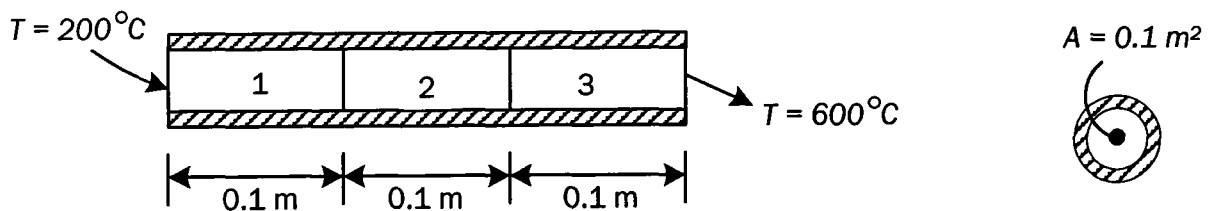

Figure Q5[a]
- Q5. [a] For the composite wall idealized by the one-dimensional model shown in Figure Q5[a], determine the interface temperature between elements 1 & 2, and 2 & 3. For element 1, let thermal conductivity $K_{xx} = 15 \text{ W/(m}\cdot\text{°C)}$; for element 2, $K_{xx} = 10 \text{ W/(m}\cdot\text{°C)}$; and for element 3, $K_{xx} = 25 \text{ W/(m}\cdot\text{°C)}$. The left end has a constant temperature of 200°C and the right end has a constant temperature of 600°C .